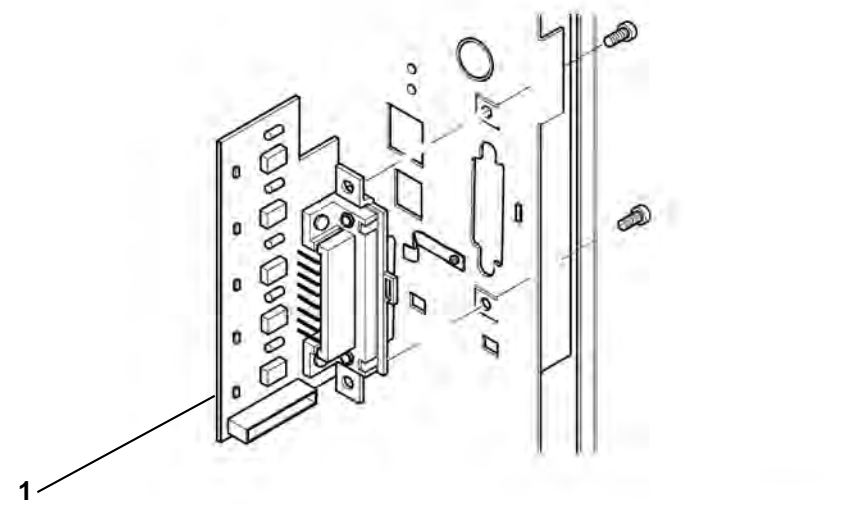

Figure 2 PBA foreign device interface install
6. Install the PBA foreign device interface. Secure using the 2 cross head screws supplied in the kit, Figure 2.